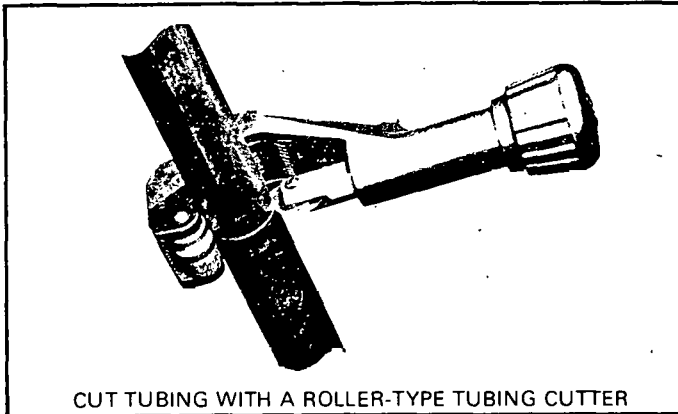

FIGURE 8
- a - Cut pipe to size with a roller type tubing cutter. See Figure 8.